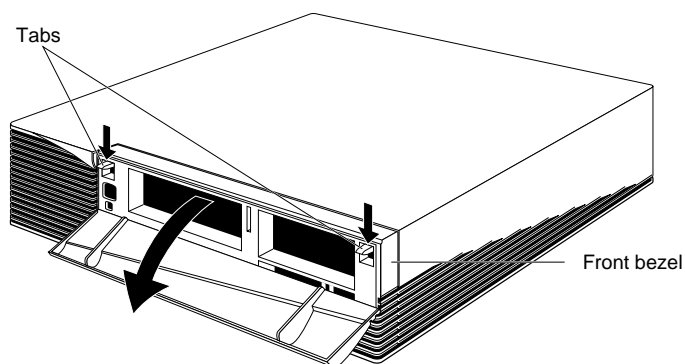

Figure 2-3 Removing the Front Bezel From the Indigo² Chassis
- Press down on the tabs on each side of the bezel, as shown in Figure 2-3.